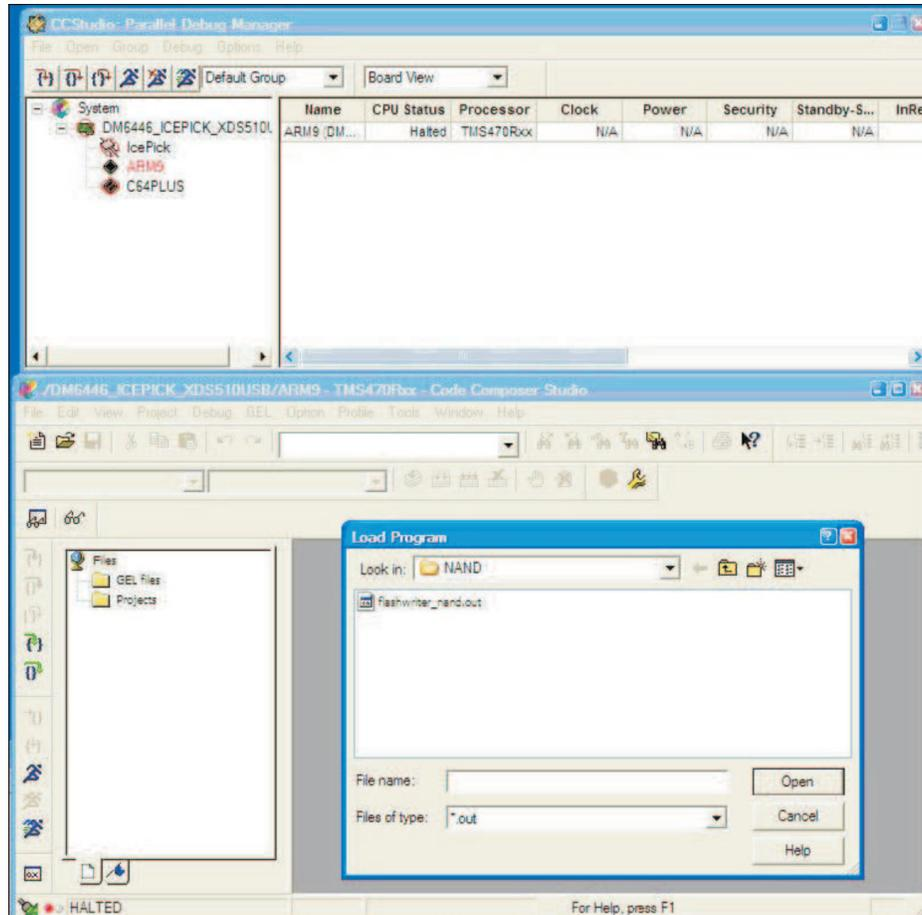

Figure 2. Loading flashwriter_nand.out
1. Open the ARM-side Code Composer Studio debugger. From the menu, click on File → Load Program and open the flashwriter_nand.out image as in Figure 2: